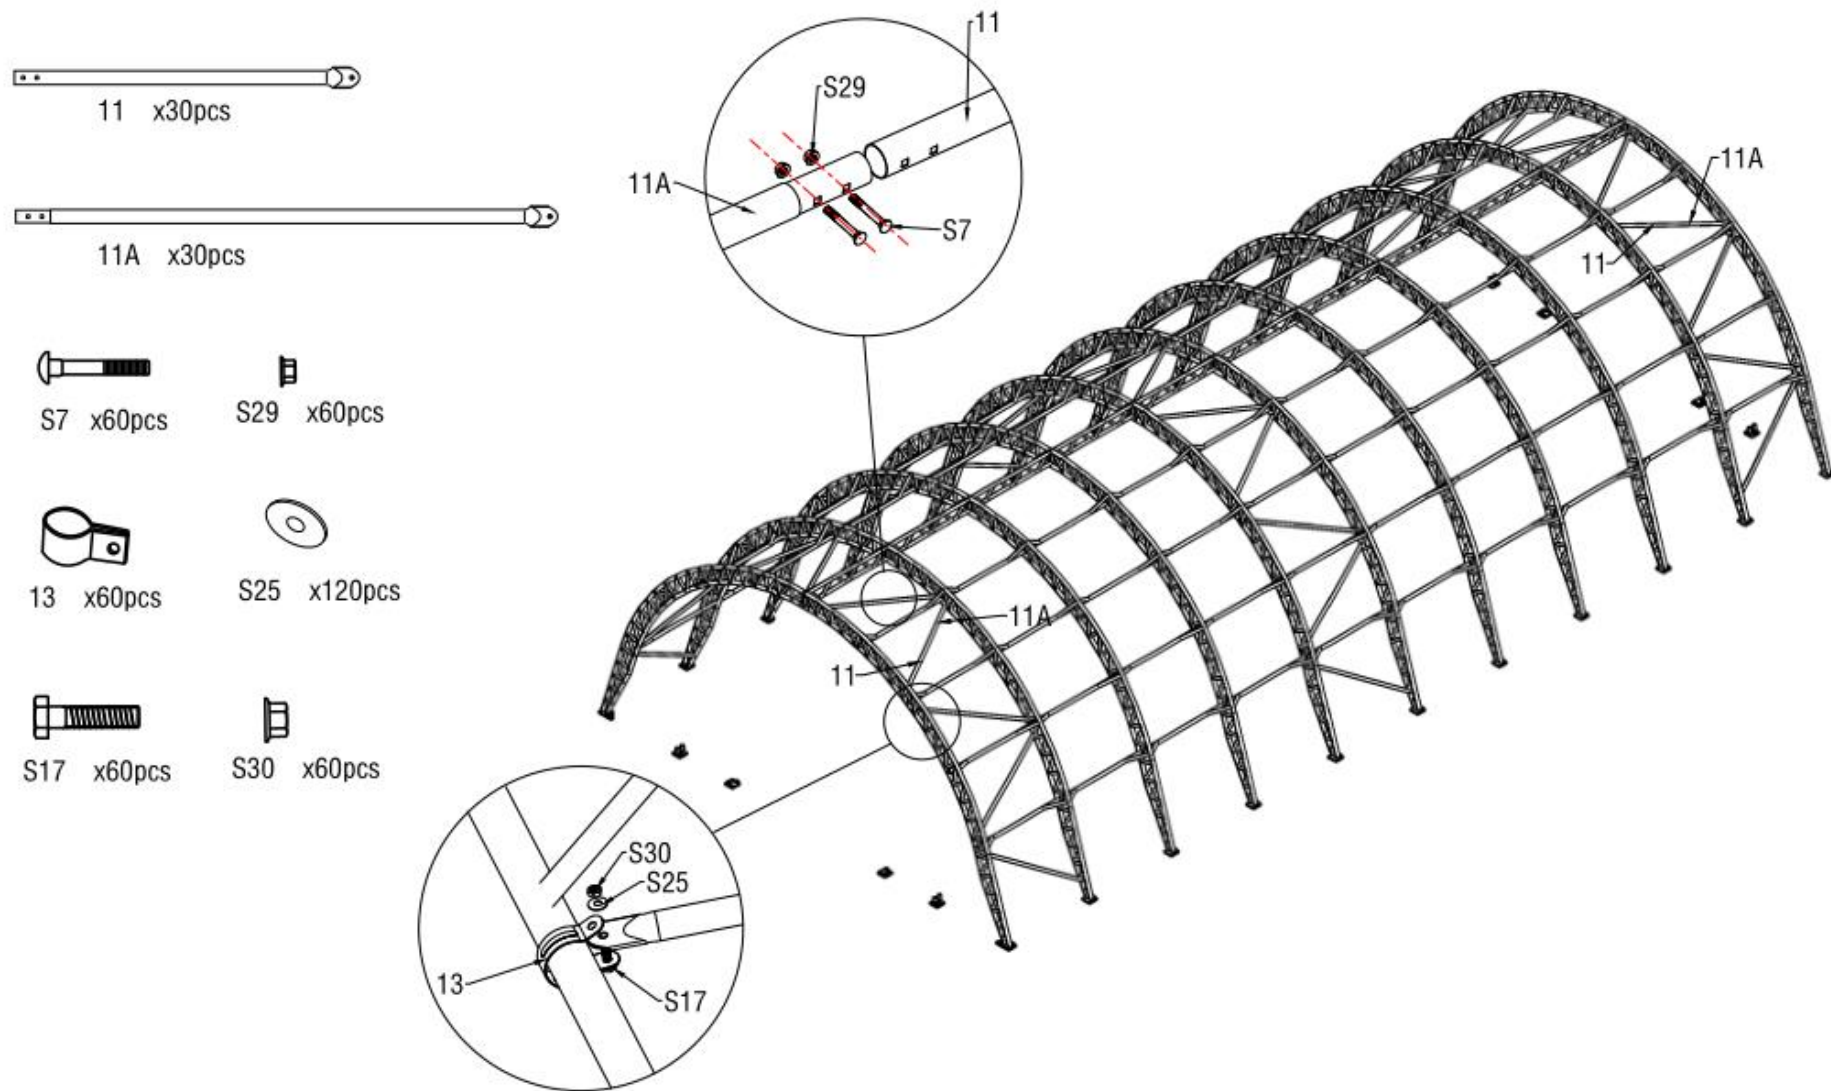

Figure 10
- As figure 10 shown to find Diagonal Support Female Tube(No.11) and Diagonal Support Male Tube(No.11A) and assemble every group support tube with Carriage bolt M8x60(No.S7) and flange nut M8(No.S29). Then connect the diagonal support tube to arch by using clip(No.13).